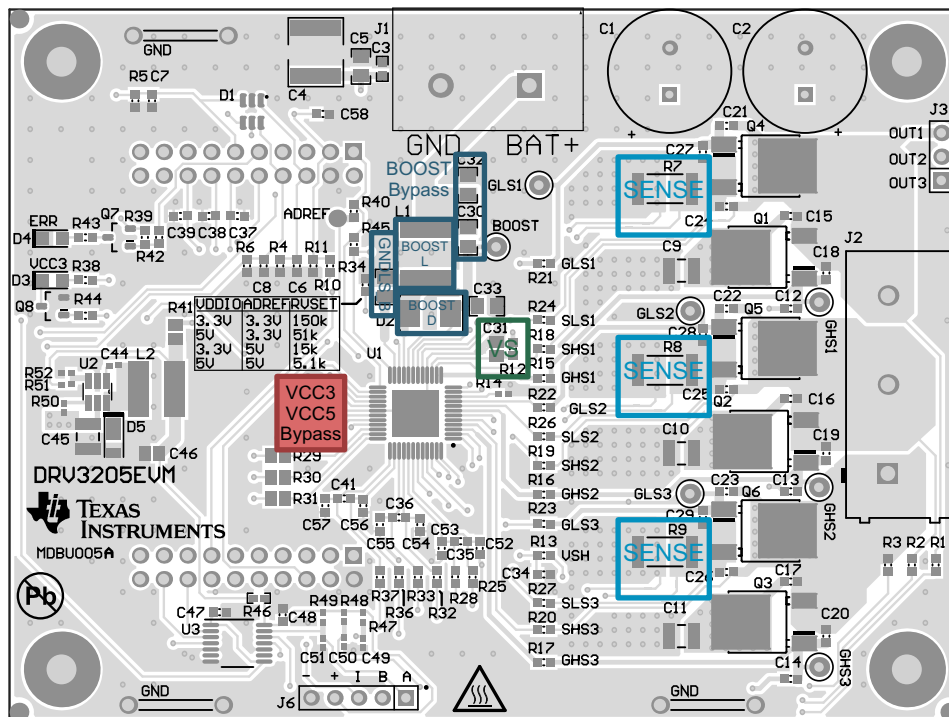

Figure 17. Layout Schematic
- The VS bypass capacitors should be placed close to the power supply terminals. See the VS box in Figure 17
- Place the VCC5 and VCC5 bypass capacitors close to the corresponding pins with a low impedance path to the ground plane pin (pin 16). See the VCC3 VCC5 bypass box in Figure 17.
- Keep the BOOST components close to the device and current loops small. See the BOOST boxes in Figure 17.
- Place the GNDLS_B resistor close to the device pin. See the GNDLS_B box in Figure 17.